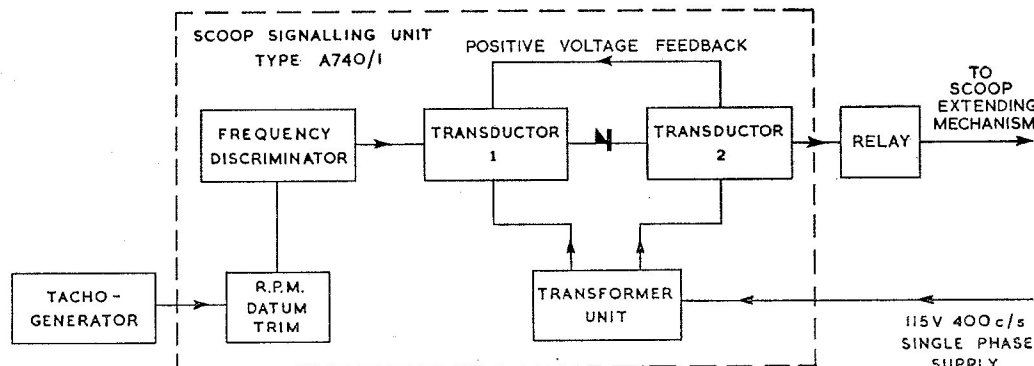

Fig. 3. Block schematic diagram
5. Fig. 3 is a block schematic diagram of the scoop signalling unit showing the input from the tacho-generator and the output to the control relay. Power input to the unit is derived from a 115V, 400 c/s single phase supply. A transformer unit provides the individual supplies for the magnetic amplifier stages.